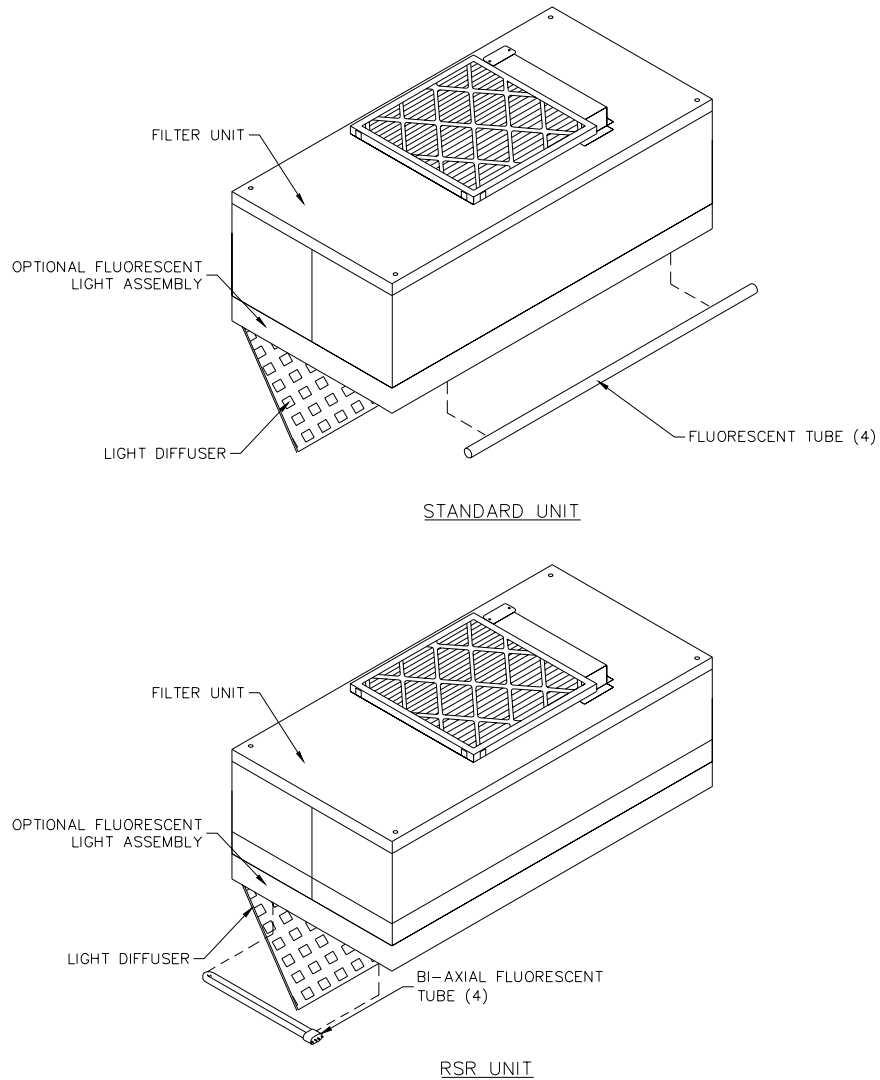

Figure 7
Step 2. Carefully remove the fluorescent tubes out of the fixture.(see Figure 7)